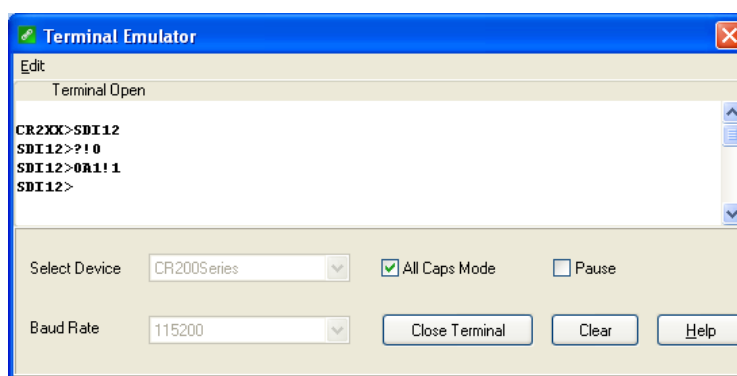

FIGURE D-1. CR200(X) example of using the SDI-12 transparent mode to change the SDI-12 address from 0 to 1.
6. To change the SDI-12 address, key in **aAb!>** <enter>, where *a* is the current address from the above step and *b* is the new address (see FIGURE D-1). The C470/CS471 will change its address and the datalogger will respond with the new address. To exit SDI-12 transparent mode, select the **Close Terminal** button.